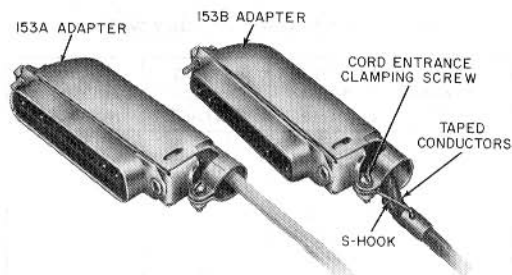

Fig. 8—153A and 153B Adapters
## 153A and 153B Adapters (Fig. 8)
- The hood has a cord-entrance clamping screw which is used to restrain S-hook terminated cords (Fig. 8), and cords of this design should have the conductors taped about 1-1/2 inches to improve appearance and protection (Fig. 8).